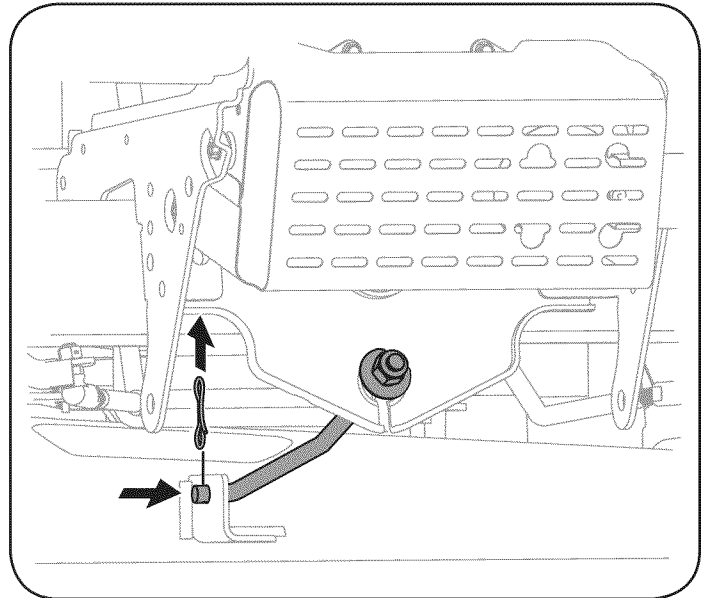

Figure 22
8. Remove the bow-tie cotter pin securing the deck stabilizer rod to the deck. Slide the deck lift rod from the mounting bracket on the deck as seen in Figure 22.